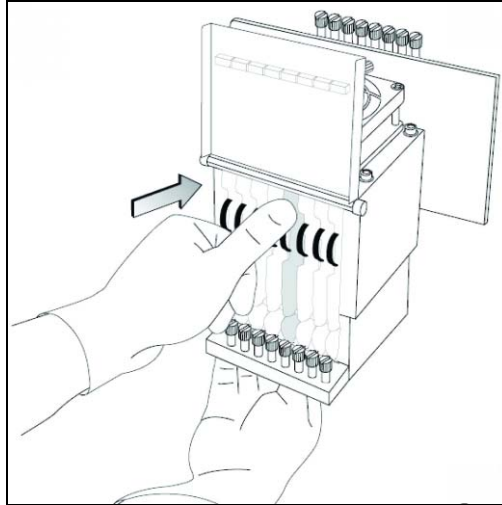

Figure 6-64: Inserting the print-head driver card into its socket
- b. Re-insert the print-head driver card into its socket (see figure 6-64 on page 44).